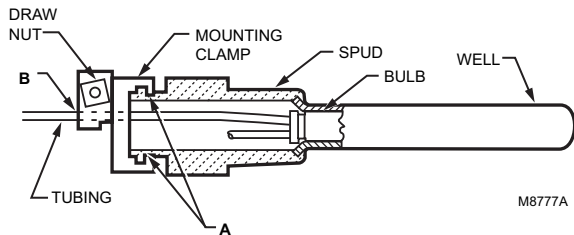
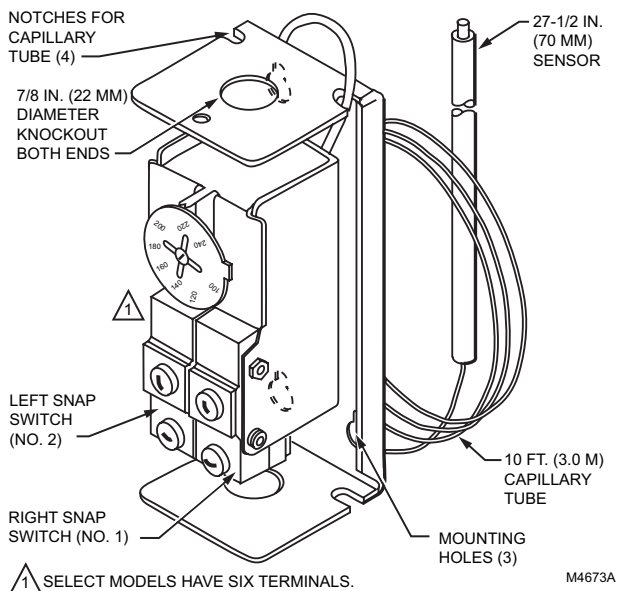
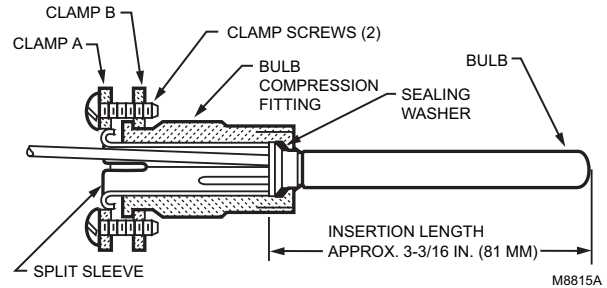
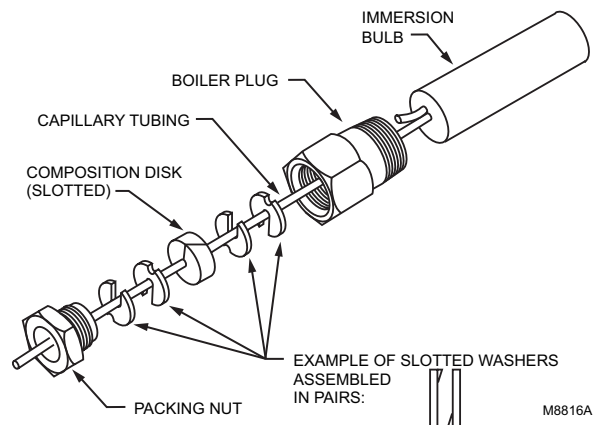

Fig. 8. Immersion well fitting.
Fig. 9. Internal view of L4008L or L6008G.
Fig. 10. Bulb compression fitting.
Fig. 11. Capillary compression fitting. Use with L4008.
The remote temperature-sensing bulb can either be installed in an immersion well (See Fig. 8) that extends into the boiler or tank, or it can be directly immersed in the controlled medium (See Fig. 9). For installations that do not use a well, secure the remote bulb with a bulb compression fitting (See Fig. 10), or capillary compression fitting. (See Fig. 11).
Order well, well adapter, bulb compression fitting or capillary compression fitting separately. See form no. 68-0040, Wells and Fittings for Temperature Controllers. If used, well must snugly fit sensing bulb for the best thermal response. Insert bulb until it rests against the bottom of the well. Hold it there while tightening the tubing clamp. (See Fig. 8).
3. Attach the retainer clamp to the end of the well spud. Loosen the draw nut and spread the jaws of the clamp with the screwdriver if necessary. (See Fig. 8).
4. With the retainer clamp attached to the well spud (be sure the jaws of the clamp hook over the ridge at the end of the spud, as shown at points A in Fig. 8), adjust the tubing to fit through the retainer clamp groove, as shown at point B in Fig. 8.
4. Slide the split sleeve into the fitting. (See Fig. 10).
4. Place the composition disk and four slotted brass washers on the tubing in the order shown in Fig. 11. Turn the brass washers so the slots are 180 degrees apart.